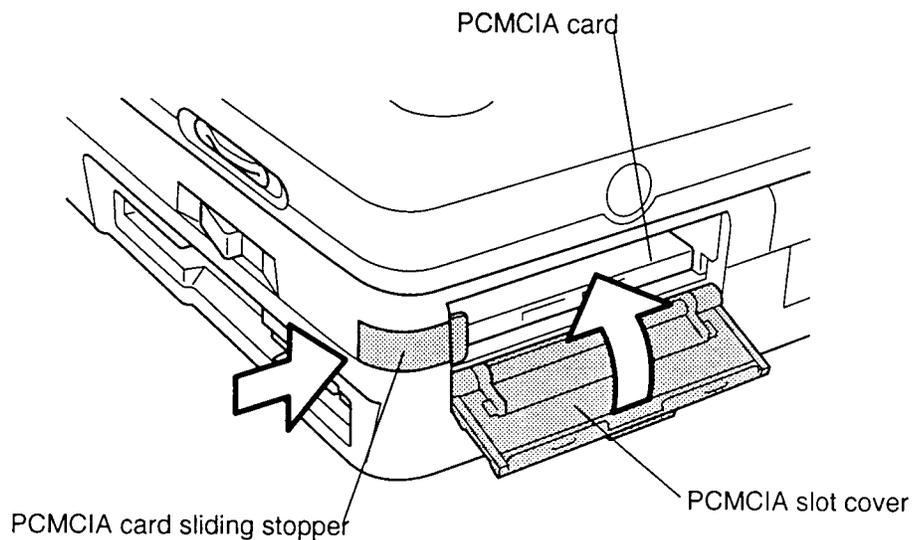

Figure 4-3 Installing the optional PCMCIA card
To install an optional PCMCIA card in the T2400CS/T2400CT, follow the steps below and refer to figure 4-3:
3. Push the **PCMCIA card sliding stopper** into place, then close the **PCMCIA slot cover** (figure 4-3).